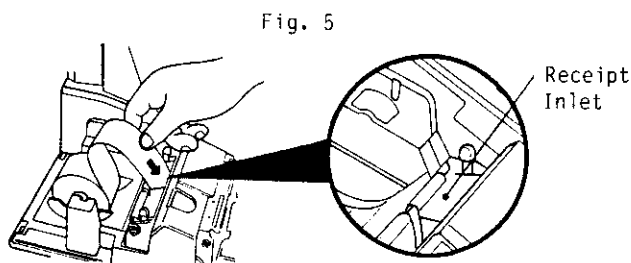

Fig. 5
6. Insert the paper end into the Receipt Inlet, feed the paper in while pressing down the [RF] key. (Fig. 5)
* The Ink Roll is a consumable product and a genuine part supplied by TEC. Ask your TEC representative for an additional order. (Fig.5)